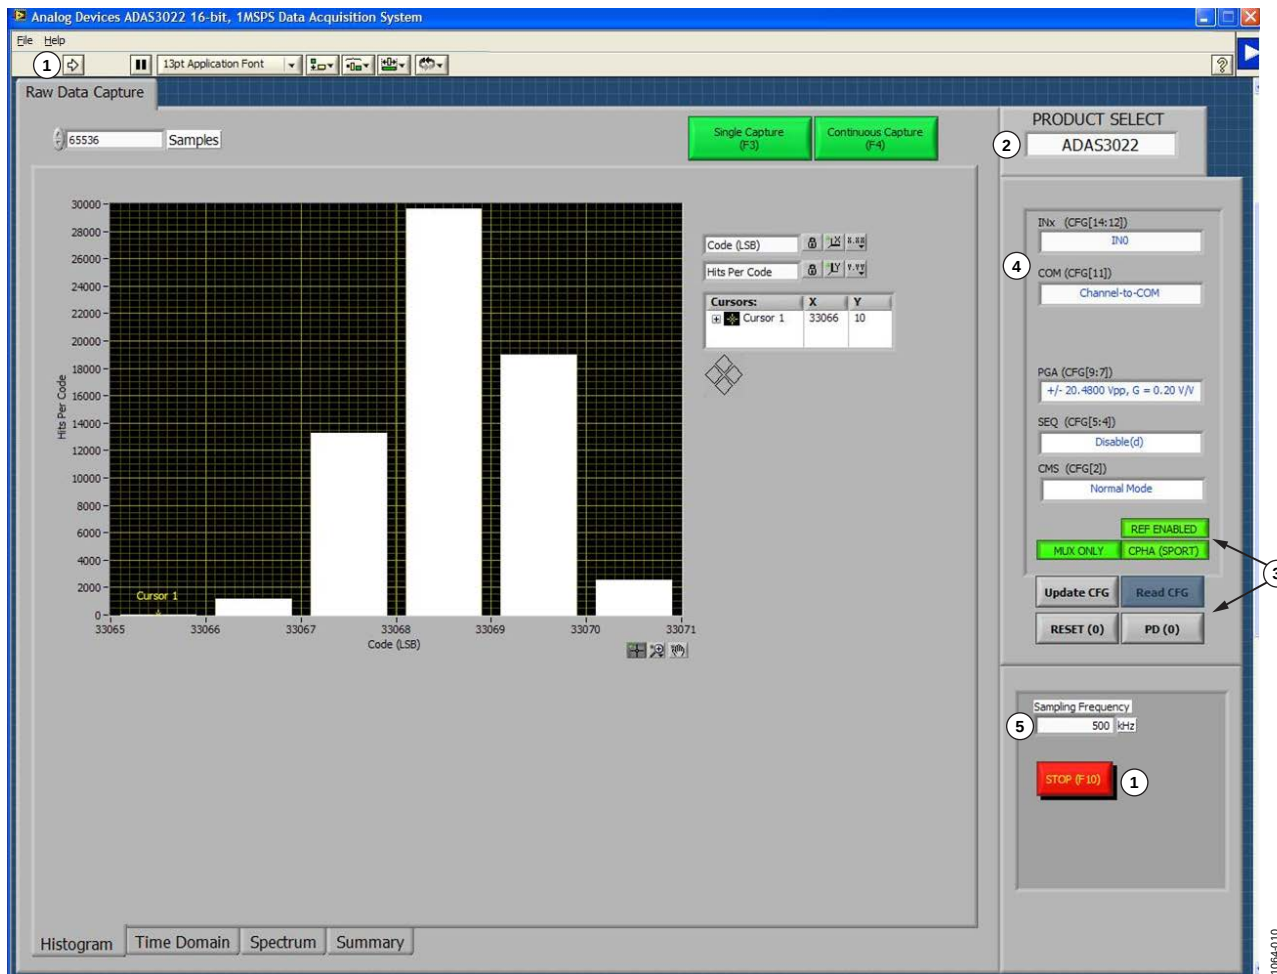
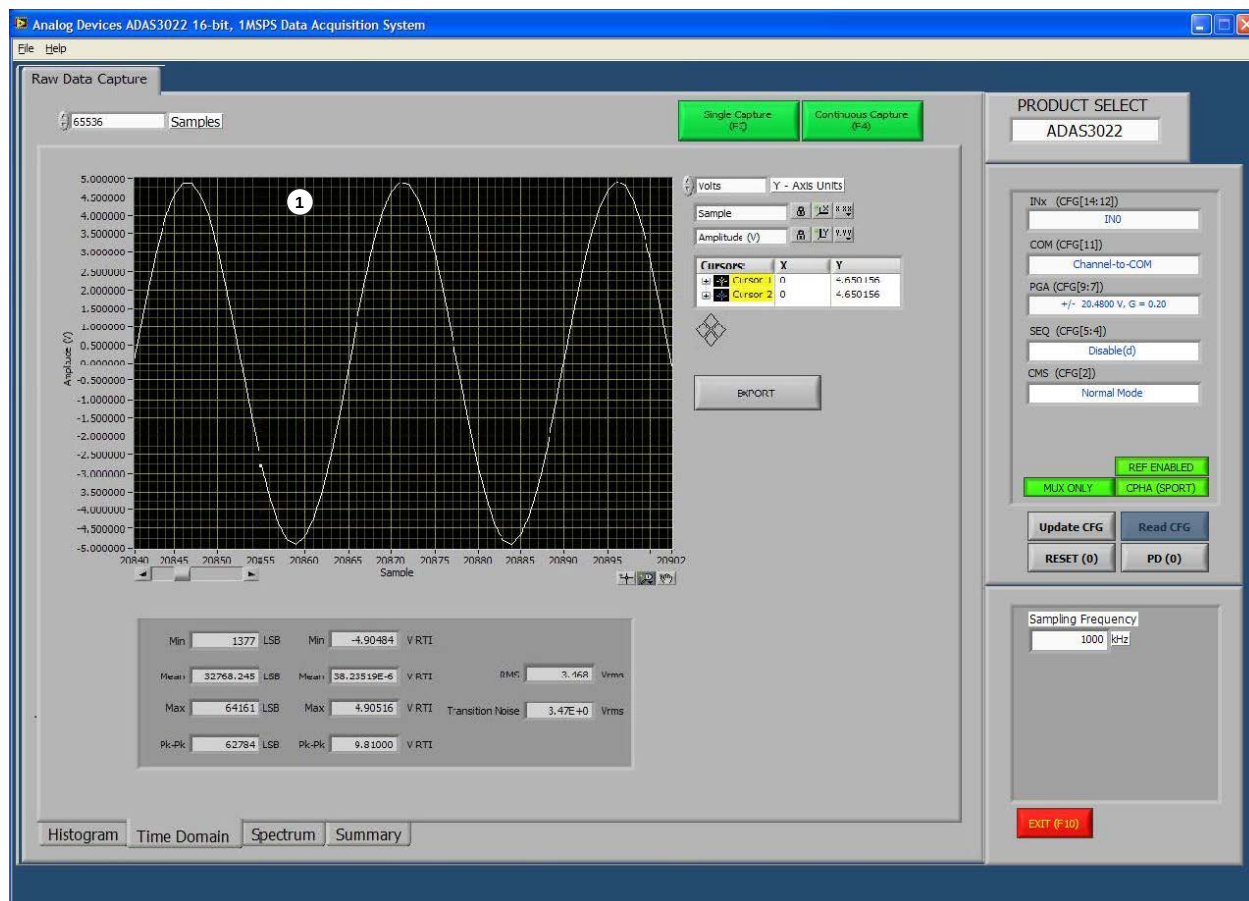

Figure 10. Setup Screen
Figure 19. Time Domain
Refer to Figure 10 to Figure 19 for further details and features of the software.
Refer to the numbered labels in Figure 10 which match the numbered descriptions in this section.
- When running the software from **Start/All Programs/Analog Devices**, the software automatically runs. Select **STOP (F10)** to stop the software and display the right arrow (see 1 in Figure 10). This arrow is used to start the software again. When running the software, this icon is not displayed.
- PD (0)** places the ADAS3022 device in power-down. This does not need to take place when starting the software.
4. The CFG controls (labeled 4 in Figure 10) are used to set the CFG. See the Software Controls section.
The time domain (oscilloscope) is shown in Figure 19 (see label 1).